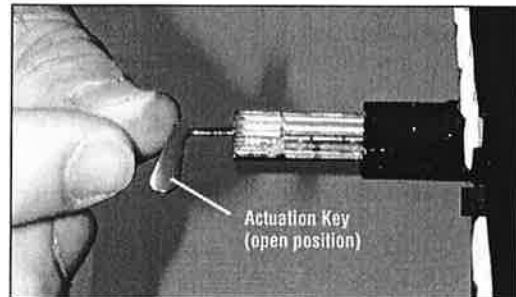

Figure 3
3. Note that on the top of the module there are A and B labels for each channel. Insert the actuation key—with the key handle pointing up—into the top hole of the A channel. Turn the key 90° so that the handle points in the outboard direction (see Figure 3). This is called the open position.